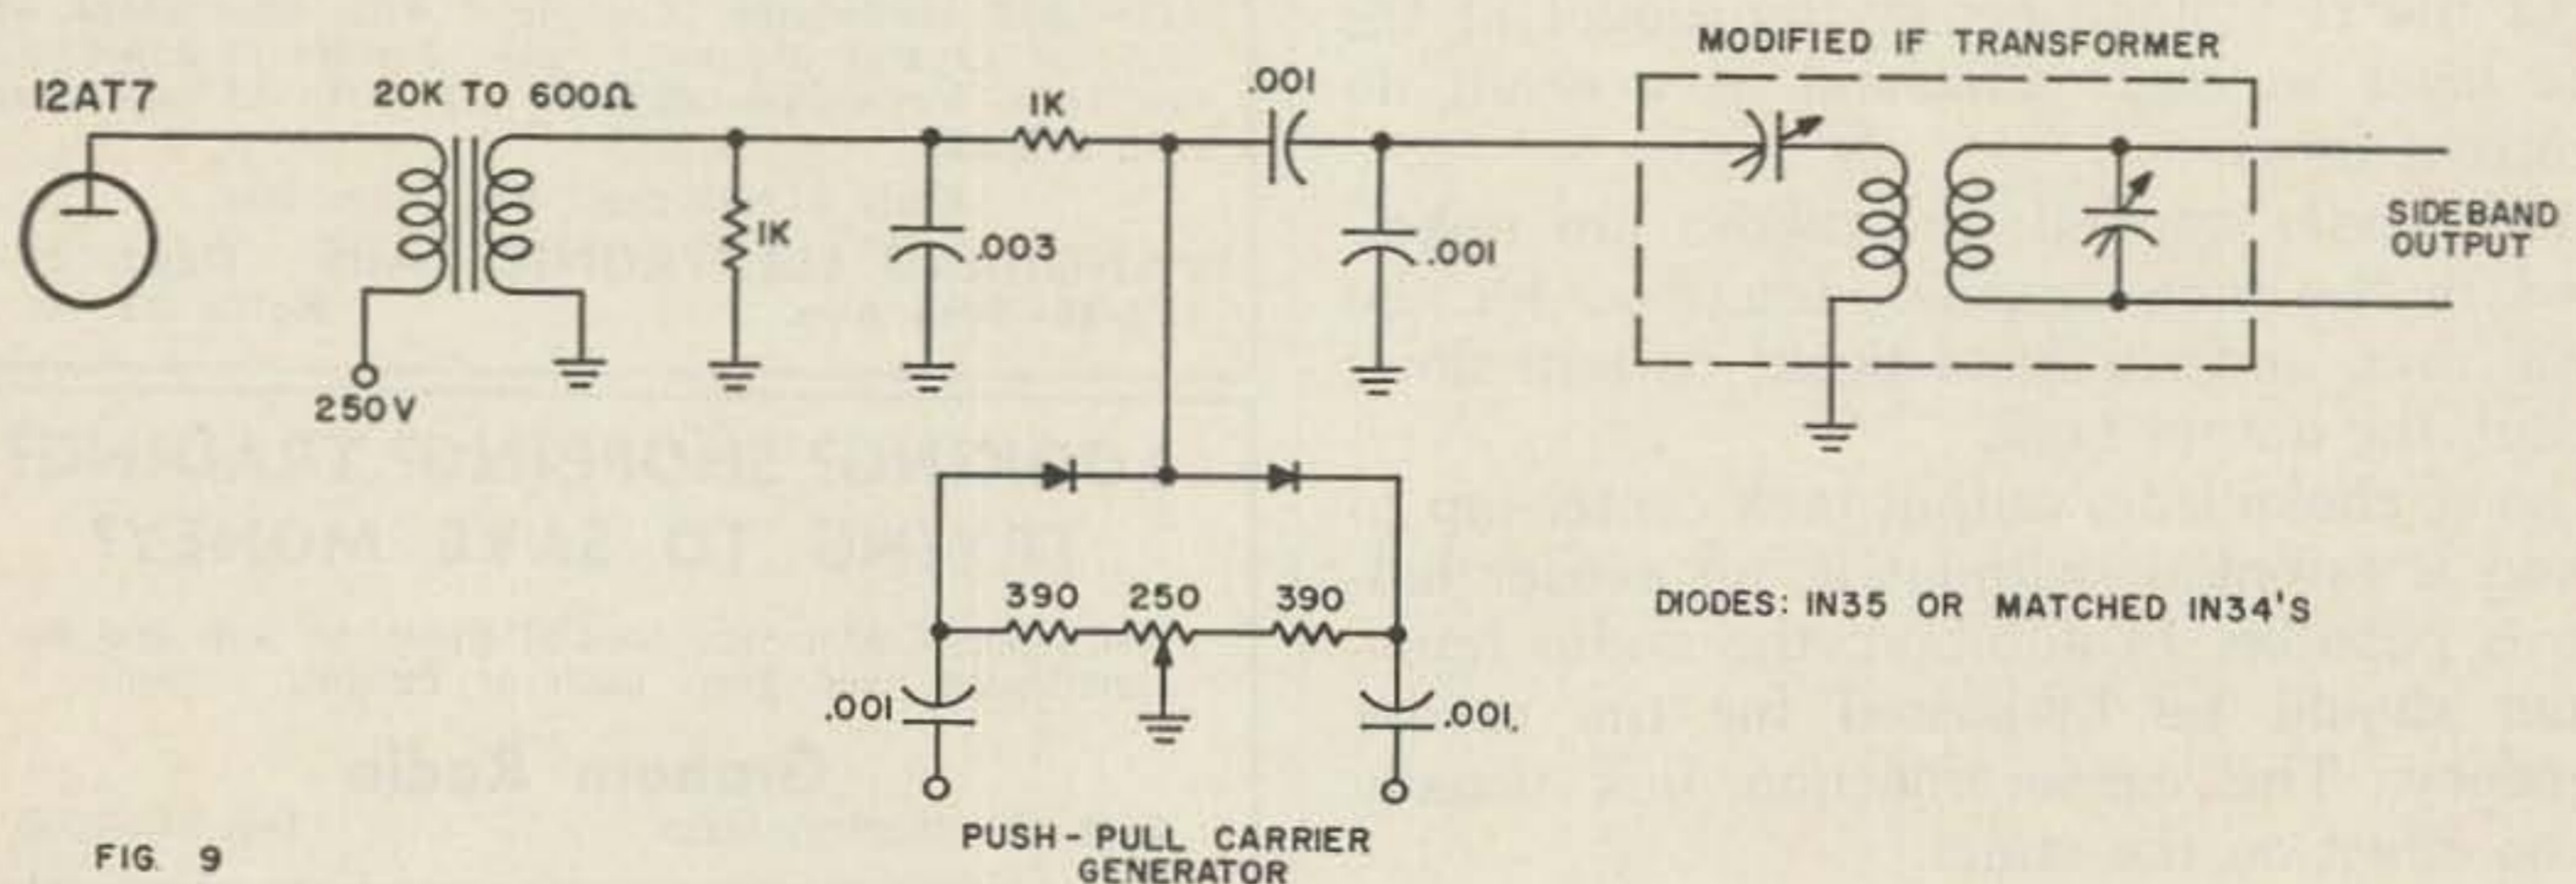
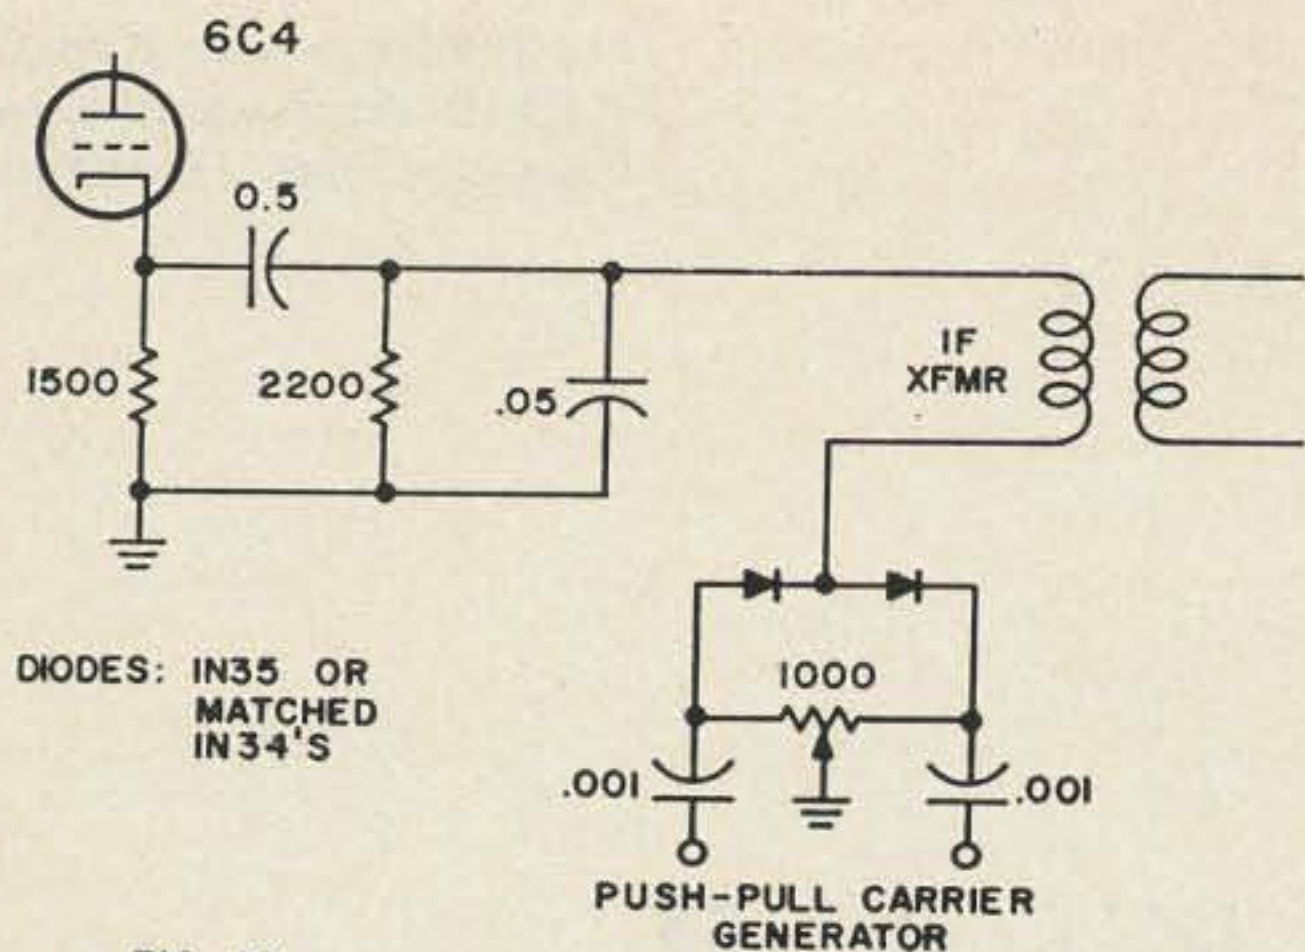

FIG. 9
FIG. 10
except that the two lower diodes are replaced by a push-pull carrier input. A typical circuit is shown in Fig. 9.
This is the reason for the 1,000 ohm resistor shown in Fig. 9. It establishes 1,000 ohms as the circuit source impedance. This is a good compromise value for most diodes.
**The 2 Diode Series Modulator.** The 2 diode series modulator shown in Fig. 10 appears, at first glance, almost identical to the shunt modulator of Fig. 9. However, it works in a radically different manner.